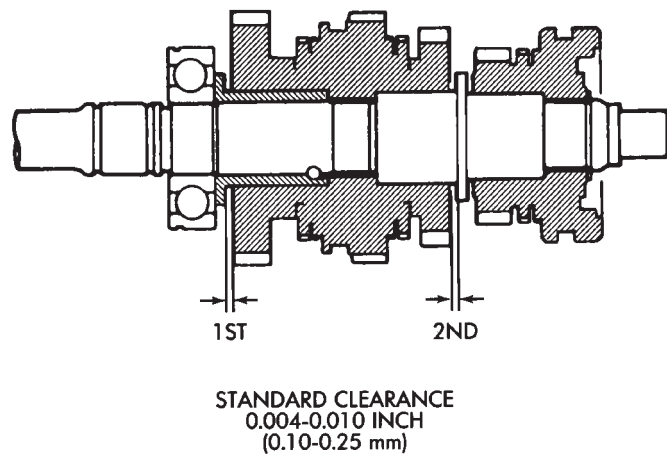

Fig. 54 Checking First-Second Gear Thrust Clearance
(15) Check first-second gear thrust clearance (Fig. 54). Standard clearance is 0.10 - 0.25 mm (0.004 - 0.010 in.).